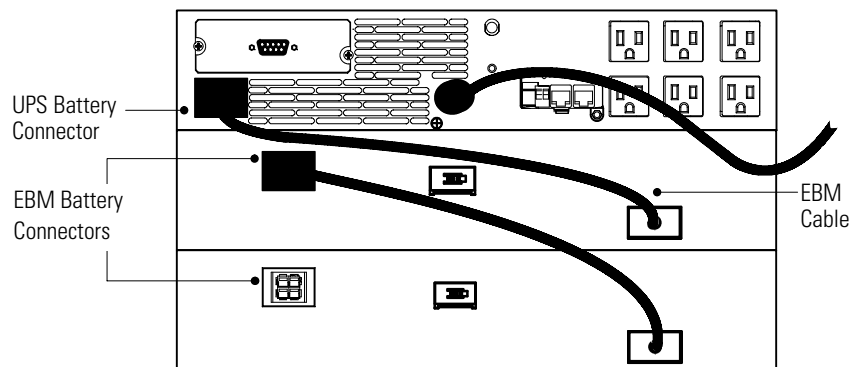

Figure 3. EBM Connections
6. Plug the EBM cable(s) into the battery connectors (see Figure 3). Up to four EBMs may be connected to the UPS.